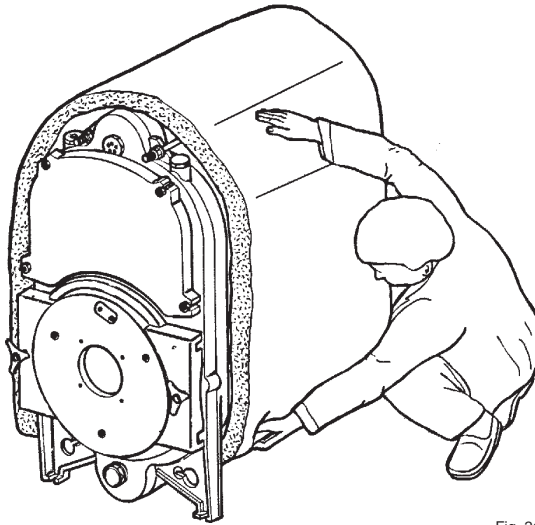

Fig. 21
4.13 (Fig. 21) Cover the boiler unit with the supplied mineral wool insulation.